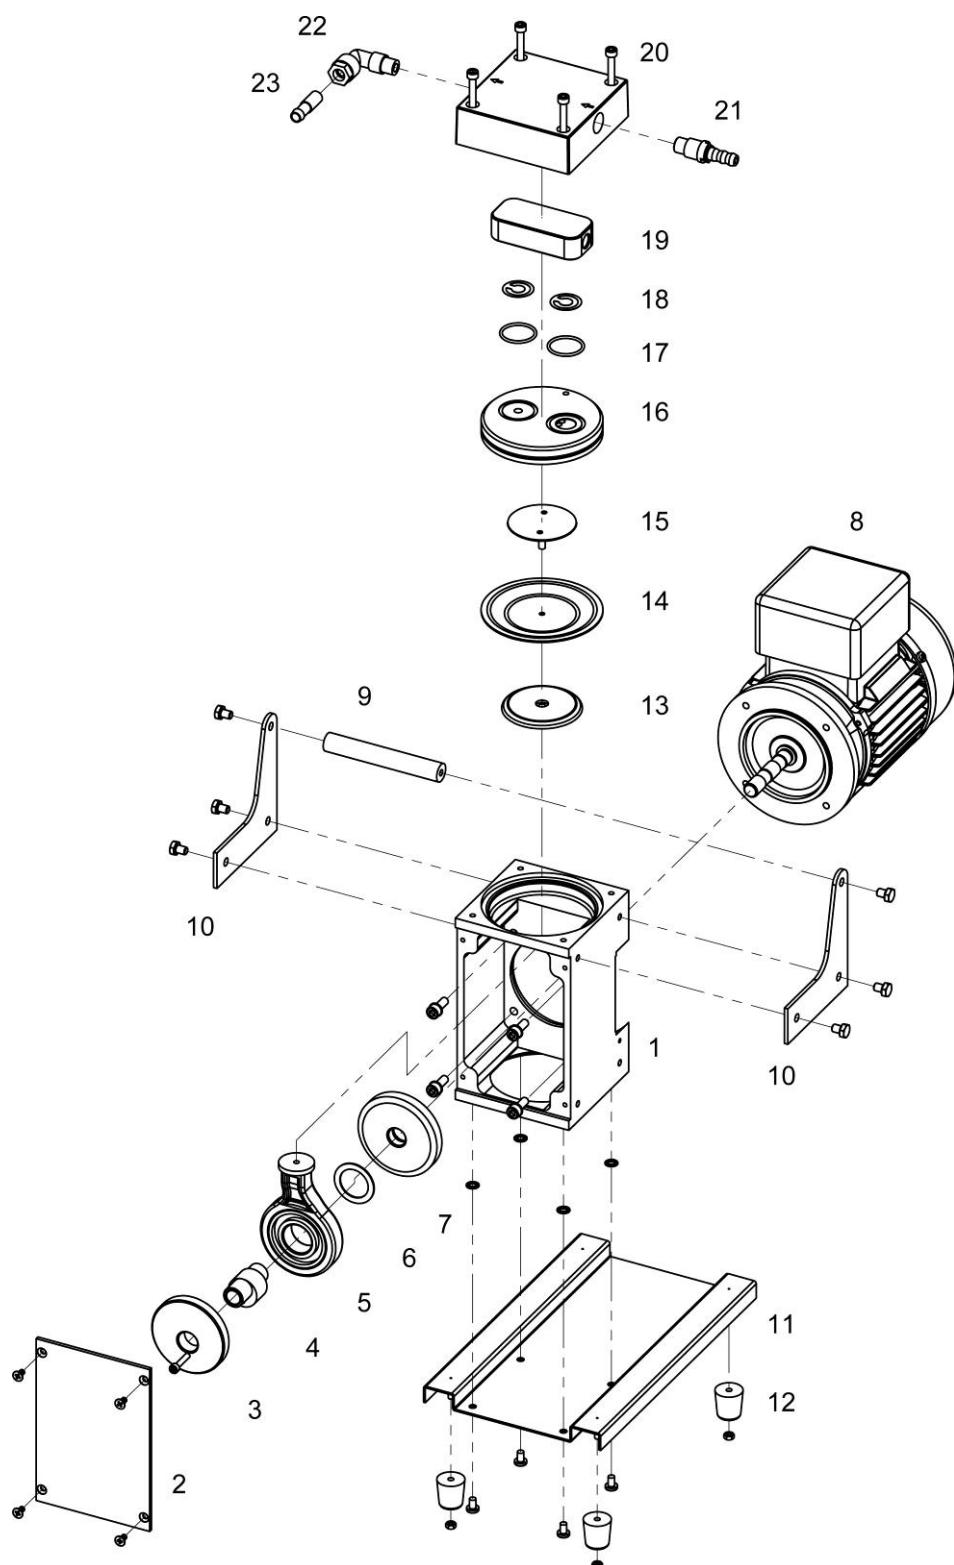

Fig. 5 Exploded view (MPC 301 E)
1. Use the size 3 pin-type face wrench to tighten the pressure disc (8), the diaphragm (7) and the strain washer (6) with the correct torque of 5 - 6 Nm.
2. Bring the connecting rod (see Fig. 5) and the diaphragm (7) into the central position.
3. Replace the pump head (5).
4. Insert the valves (3) and the o-rings (4).